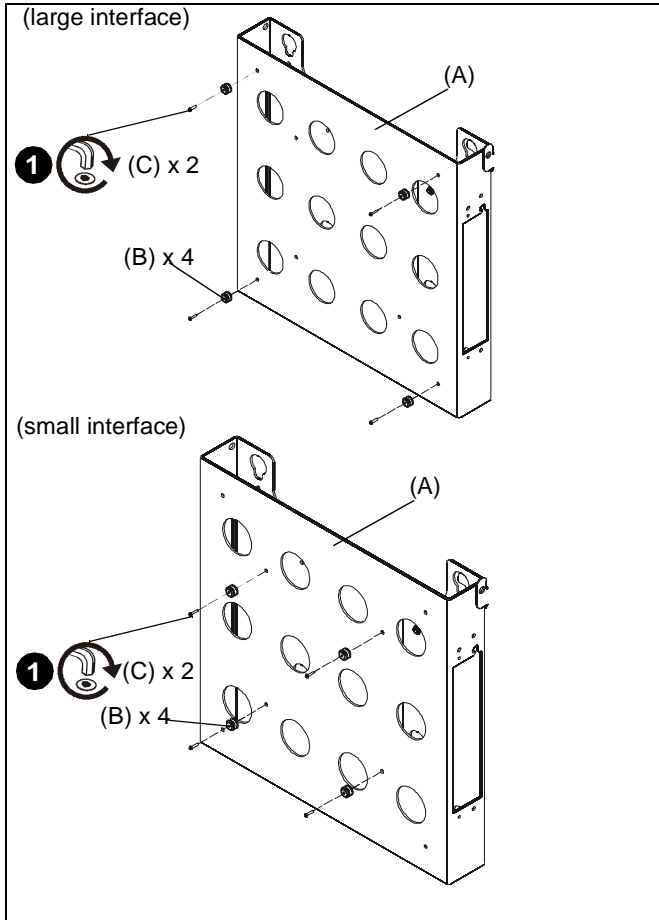

Figure 1
1. Attach four mounting buttons (B) to CPU holder (A) using four #10-24 x 7/8" button head cap screws (C). (See Figure 1)